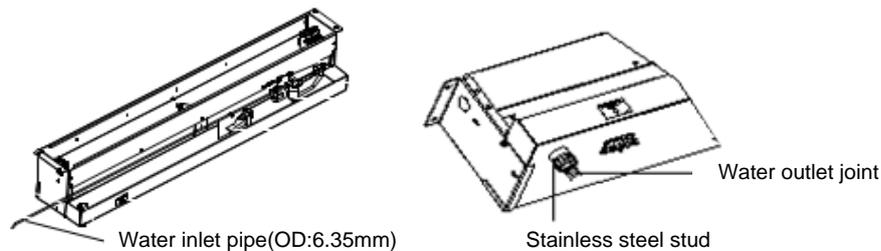

Figure 3-10 Water inlet pipe of infrared humidifier (P1020&P1025)
- 2.Make sure that the connection of the water inlet pipe is well sealed to prevent leakage. The infrared humidifier reserves a copper pipe (OD: 6.35mm), as shown in Figure 3-10. There is a 1/4" copper nut at the end of the copper pipe, and the 1/4" × 1/2" conversion copper thread connector has been connected to the copper nut to avoid losing them. You can also select other connection methods.